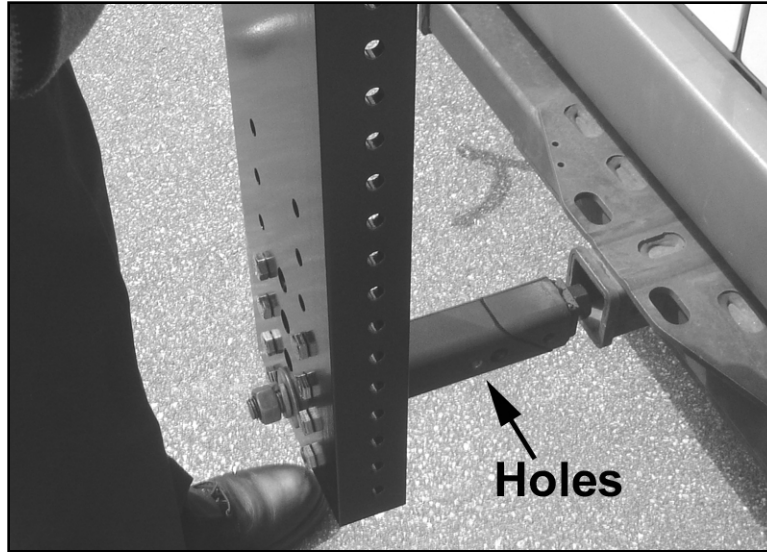

Figure 7: Insert mount into hitch receiver.
- 4 Attach antenna trailer hitch mount to the vehicle.** The hitch mount is designed to fit into a Class 3 trailer hitch. Insert the draw bar into the hitch. Notice holes on the sides of the split mount bar (Figure 7). Line up these holes with the two holes on the side of the hitch receiver. Tighten the 1 1/8" nut on the front of the mount. This will pull in the draw bar and secure the mount to the receiver.